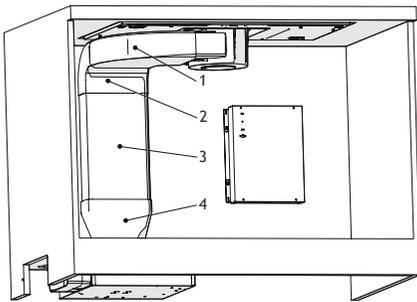

Fig. 24
9. ➔ ■ Connect the appliance air discharge and motor box air suction via supplied plastic pipes (Fig. 24).